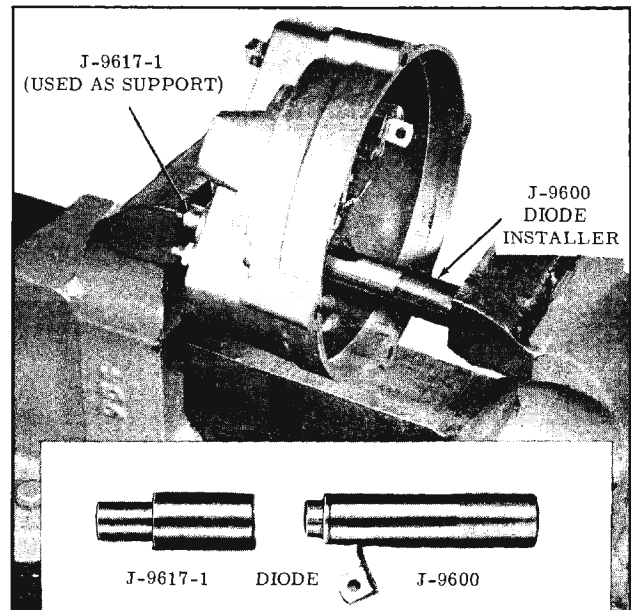

Fig. 14-22 Diode Installation
1. Insert a diode into Tool J-9600 as shown in Inset, Fig. 14-22.
2. Position Tools J-9617-1, J-9600 (with diode) and end frame as shown in Fig. 14-22.